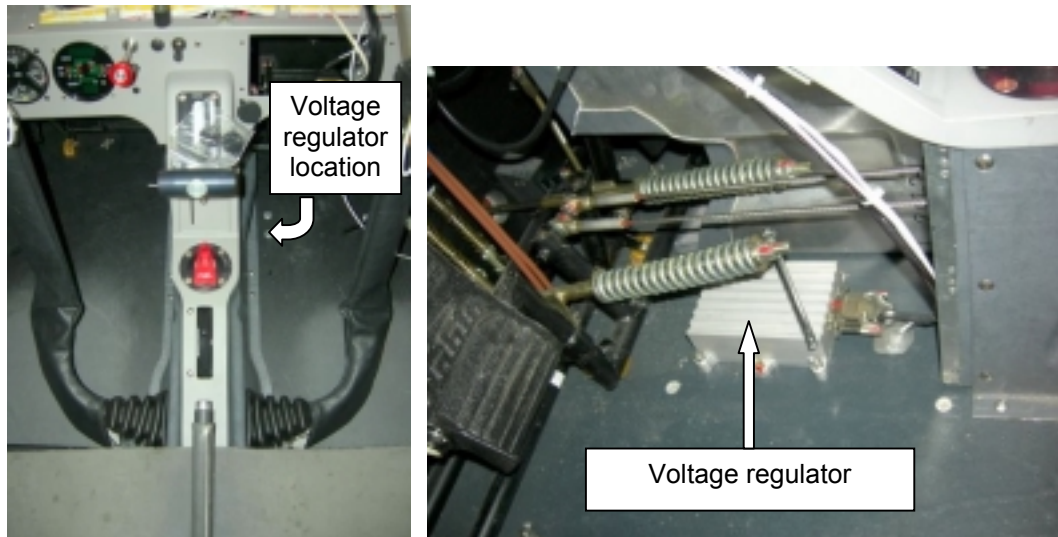

Fig. 24-2e.
The voltage regulator is located inside the cockpit, under the center console (see Fig. 24-2e).
- (1) Remove the left-hand fairing of the center console (see fig. 24-2e).